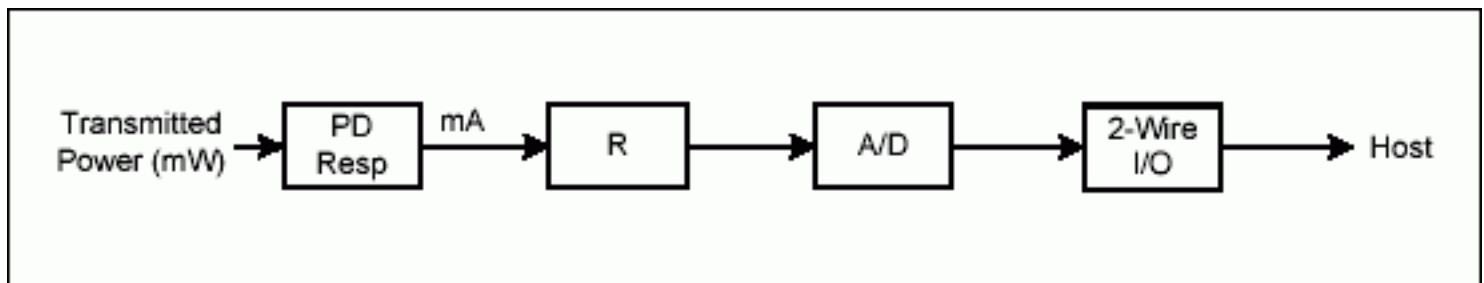

Figure 1.
**Figure 1** shows the path the measurement data follows during monitoring of transmitted power. An optical output is converted into current by virtue of the photodetector's responsivity (mA / mW). This current is converted into digital form through an A/D and then placed on the 2-Wire bus for easy access by a host. Responsivity of photodetectors can vary, from part to part, by as much as a factor of 10. Consequently, in a raw uncalibrated environment, the host will get significantly different data values for the same transmitted power, depending on the photodetector gain.